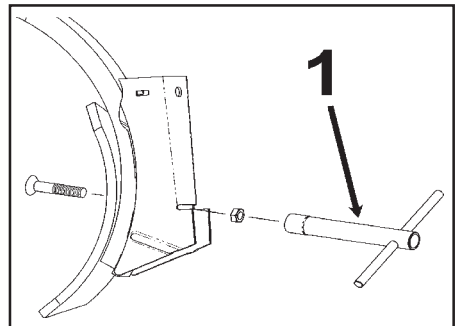

fig. 27
After some working hours, all bolts must be inspected and tightened if necessary, specially those tying the coulters. For these bolts, a special tube key (1, fig. 27) is supplied with the machine.